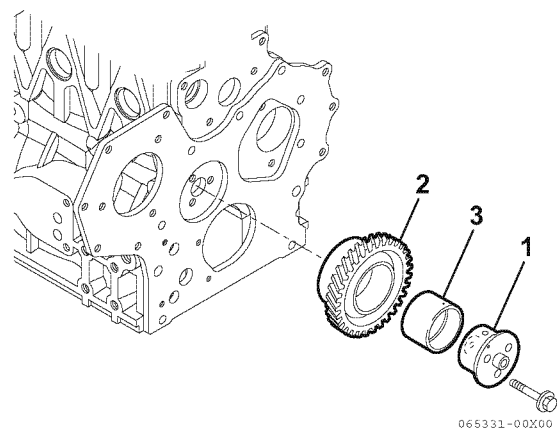

Figure 6-96
3. Lubricate the idler gear (2, **Figure 6-96**), bushing (3, **Figure 6-96**) and idler gear shaft (1, **Figure 6-96**) with clean engine oil.